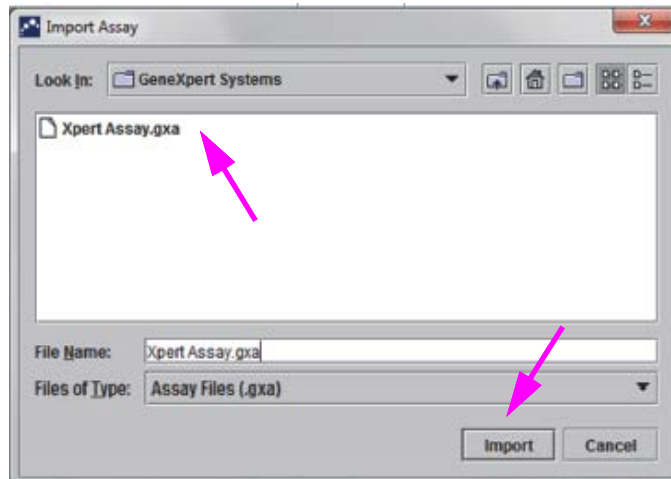

Figure 2-71. Import Assay Dialog Box
5. Sign the Installation Qualification Report and file a copy of the report for your records. See Figure 2-71.